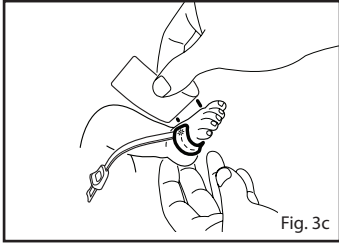

Fig. 3c
4. Refer to Fig. 3c. Wrap the adhesive/foam wrap around the foot (or hand) and ensure that the emitter window (✳) aligns directly opposite of the detector. Be careful to maintain proper alignment of the detector and emitter windows while attaching adhesive/foam wrap to secure the sensor.